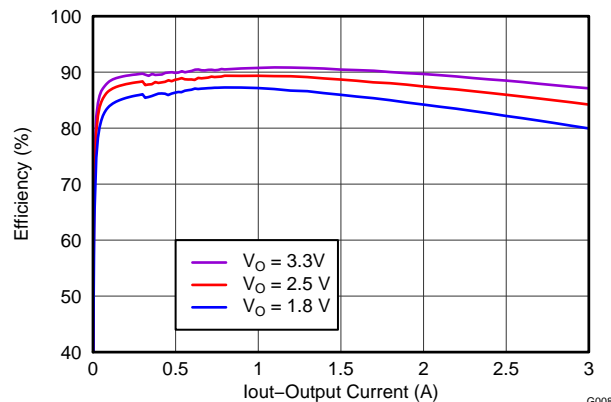
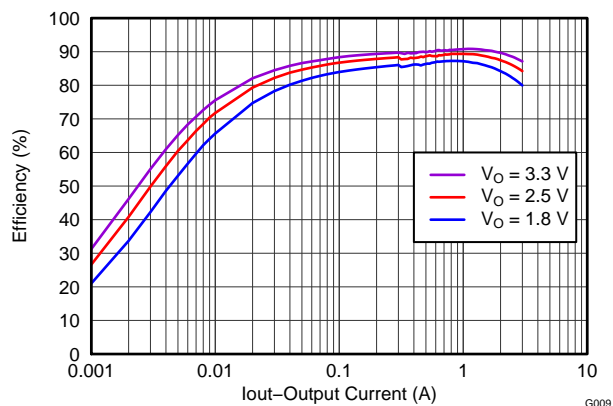

Figure 8. EFFICIENCY vs OUTPUT CURRENT
Figure 9. LIGHT LOAD EFFICIENCY vs OUTPUT CURRENT
- Changed Figure 8 and Figure 9 ..... 8